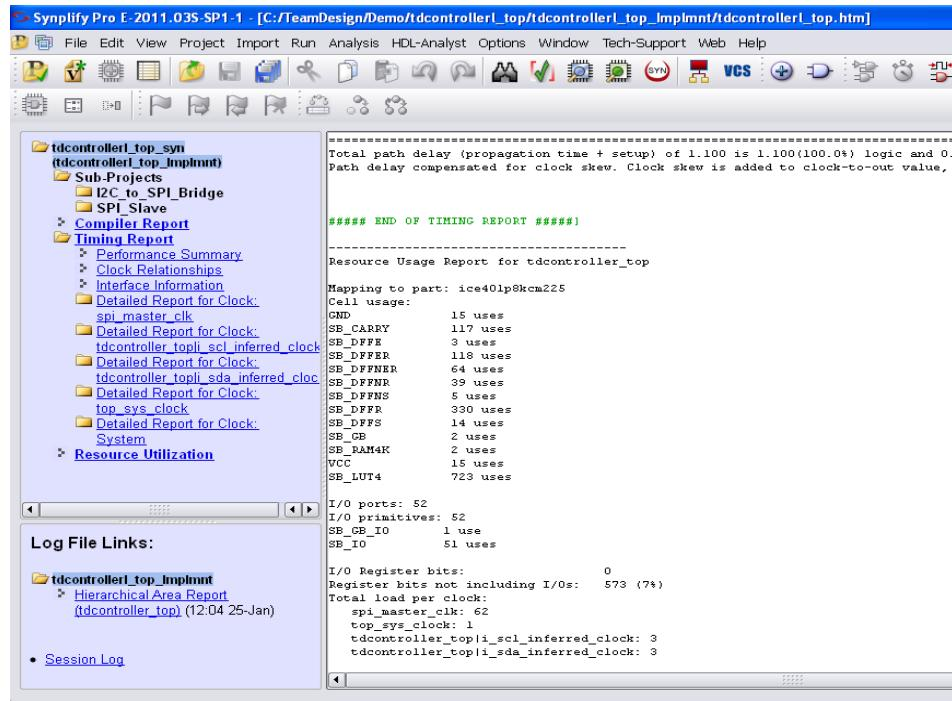

Figure 9-12: Resource Utilization Report for Top Level Project
3. Click on “Run” to synthesize the top level design. Click on the “View Log” menu item and select the “Resource Utilization” link. The resource usage report shows that all the design units are elaborated and synthesized into primitive cells, as shown in Figure 9-12.